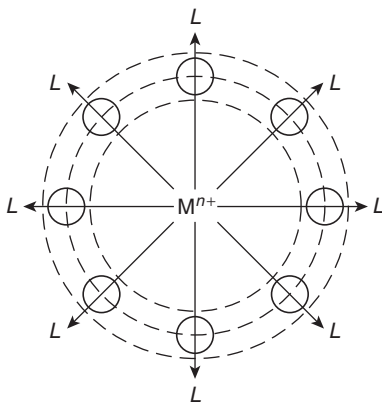

Figure 2 The central metal ion is surrounded by uniformly spread negative charges or ligands.
3. The energy of  $d$ -orbitals of the central metal ion will increase uniformly when the central metal ion is spherically surrounded by a uniformly spread negative charges or ligands as shown in Figure 2. The five  $d$ -orbitals remain degenerate though they acquire higher energy. The increase in energy of these five degenerate  $d$ -orbitals is due to the electrostatic repulsion between the electrons in  $d$ -orbitals and the ligands.